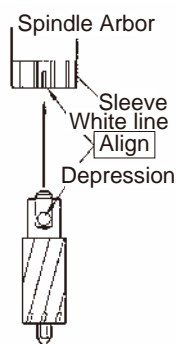

Fig. 12
* When you find it hard to insert the cutter, turn the Sleeve counterclockwise and do over. (Fig.12)